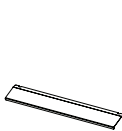

Figure 24
1. A safety panel is designed to protect control panel and the buttons when the oven is in grill mode. (figure 24)